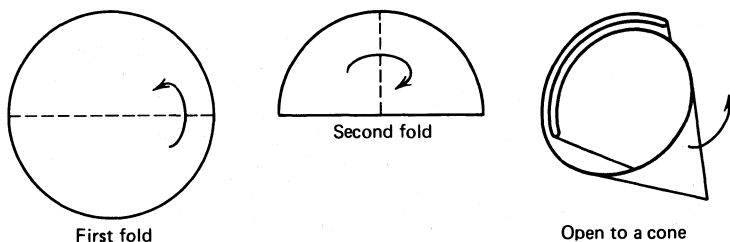
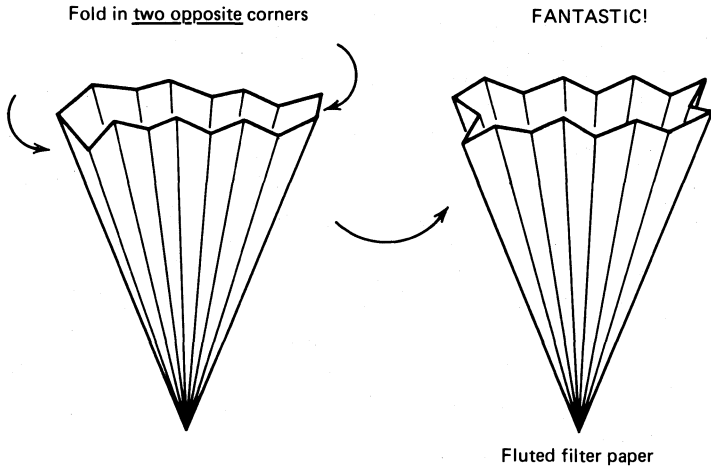

Fig. 42 Folding filter paper for gravity filtration.
Fig. 52 Finishing the final fluted fan.
1. Fold up a **filter cone** out of a piece of filter paper (Fig. 42). It should fit nicely, within a single centimeter or so of the top of the funnel. For those who wish to filter with more panache, try using **fluted filter paper** (see "world famous fan-folded fluted filter paper," Fig. 52).
4. Open the fan and play with it until you get a fairly fluted filter cone (Fig. 52).
5. It’ll be a bit difficult, but try to find the two opposing sections that are NOT folded correctly. Fold them inward (Fig. 52), and you’ll have a fantastic fan-folded fluted filter paper of your very own.